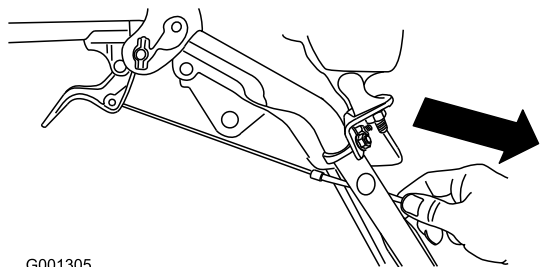

Figure 8
4. Pull the cable jacket down gently until the wheel-clutch lever is down and the slack is out of the cable, then tighten the cable-clamp nut securely (Figure 8).